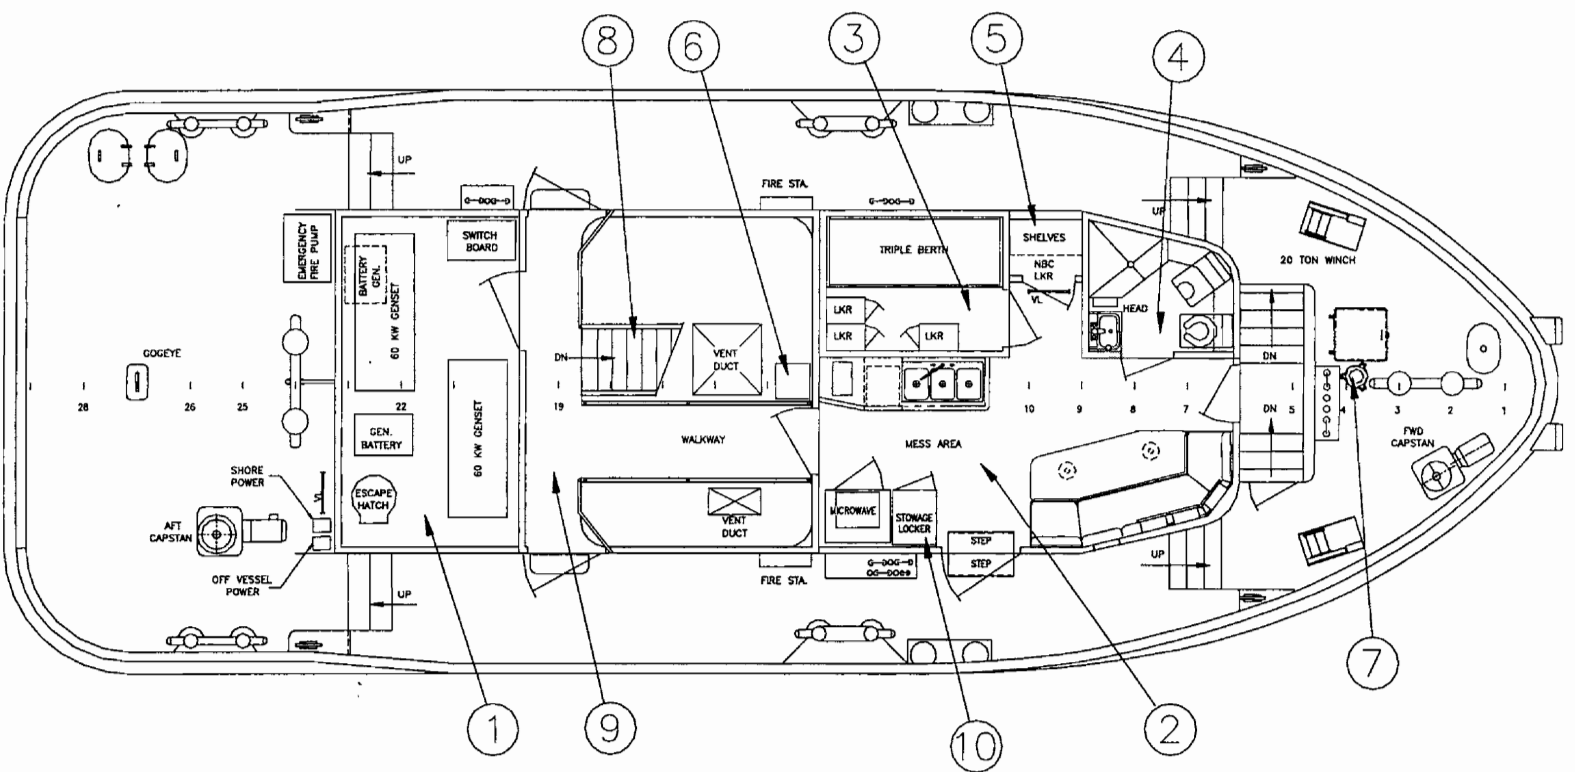
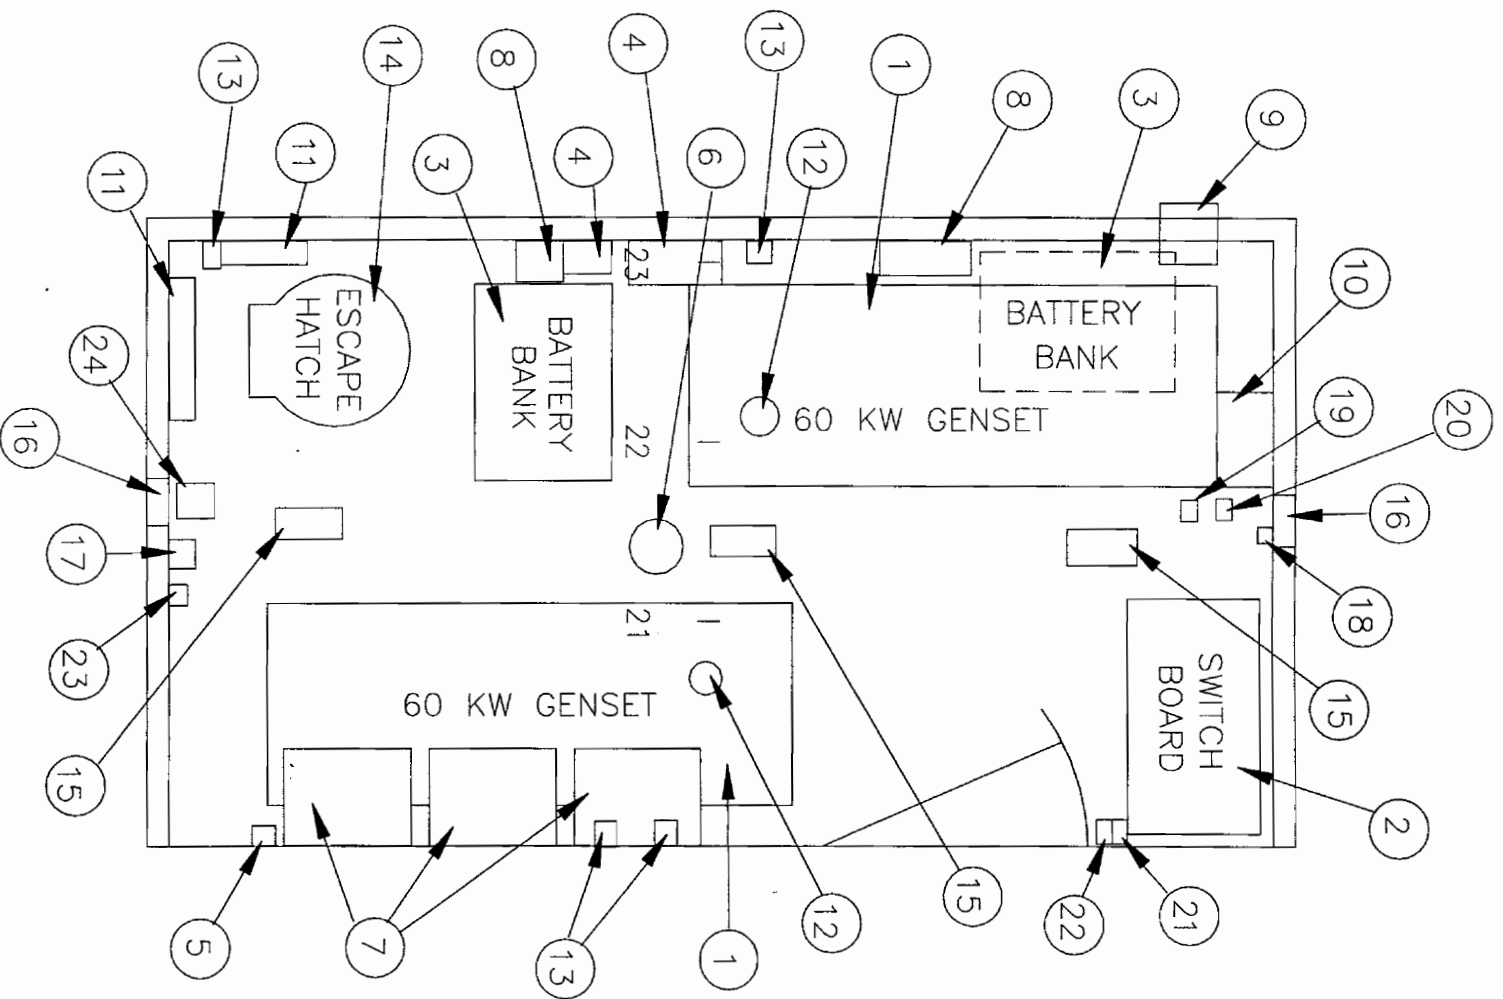
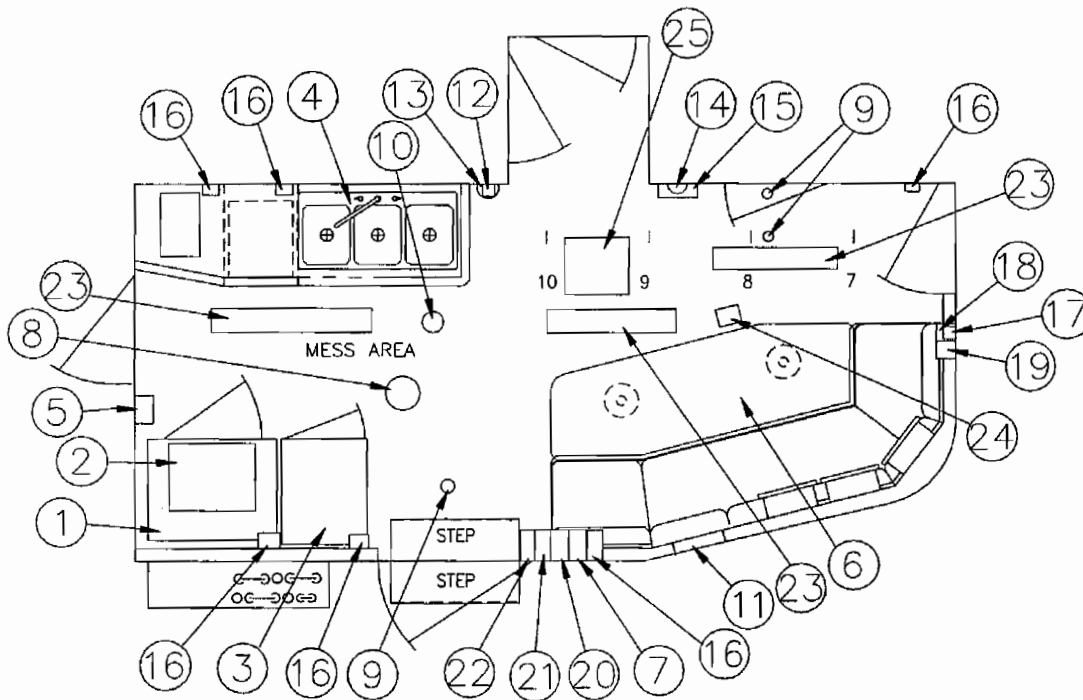
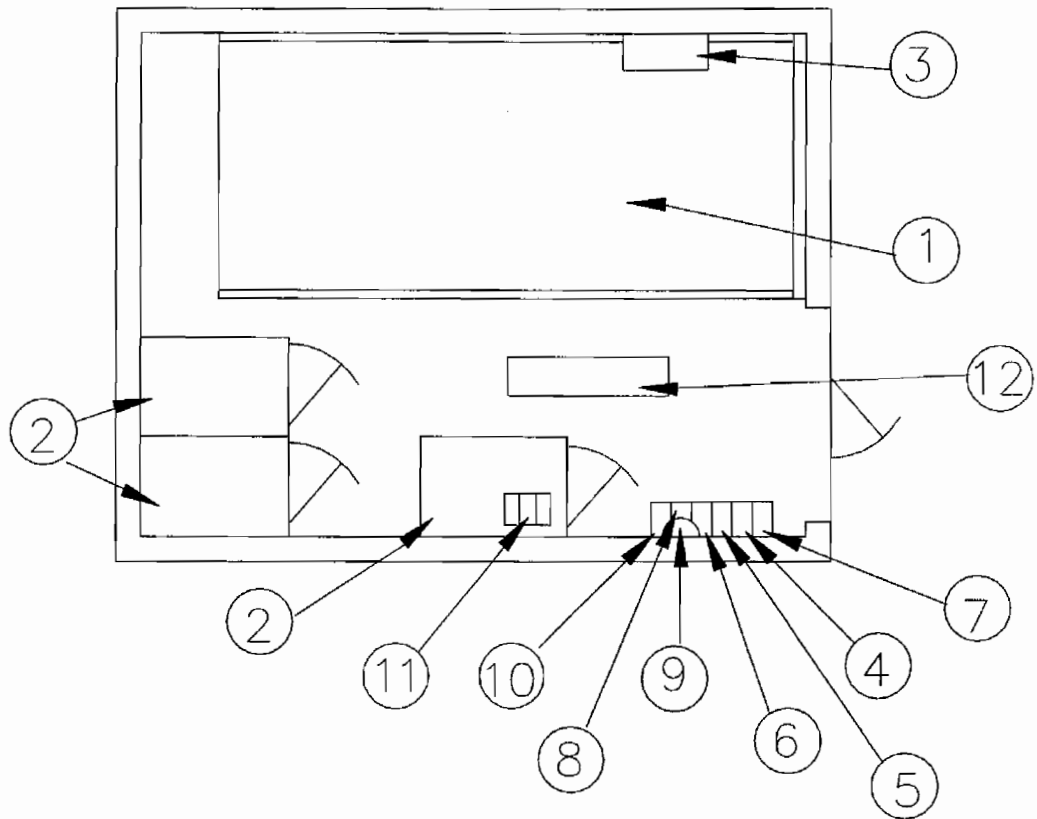

Figure 1-12. Main Deck
Figure 1-13. Generator Room
Figure 1-14. Mess Area
Figure 1-15. Three-Person Berthing Area
(4) Main Deck. The rooms on the Main Deck are depicted in Figure 1-12. These include the generator room (1), mess area (2), three-person berthing area (3), and head (4). The layout of the Main Deck is discussed below.
(a) Generator Room (Figure 1-12, Item 1). The generator room is located between Frames 19 and 24, at centerline. See Figure 1-13 for a plan view of the generator room. Key components in the generator room are outlined below.
- (b) **Mess Area (Figure 1-12, Item 2).** The mess area is located on the starboard side between Frames 6 and 14. The mess area (Refer to Figure 1-14) contains a refrigerator/freezer (Item 1), a stowage locker (Item 3), a microwave oven (Item 2), a mess table with seating (storage provided below seating) (Item 6), a sink with storage above (Item 4), a fire alarm beacon/horn (Item 5), a fire alarm pull station (Item 7), a smoke detector (Item 8), sounding tubes (Item 9), a deck drain (Item 10), a fixed port light (Item 11), a remote intercom station (Item 12), a fire extinguisher (Item 13), a clock (Item 14), a first aid kit (Item 15), six receptacles (Item 16), a sound powered phone (Item 17), an engine alarm (item 18), a ventilation shutdown (Item 19), an intercom speaker (Item 20), a carbon monoxide detector (Item 21), a light switch (Item 22), three fluorescent light fixtures (Item 23), an emergency DC light (Item 24), and an air condition vent (Item 25).
- (c) **Three-Person Berthing Area (Figure 1-12, Item 3).** A three-person berthing area (Refer to Figure 1-15) is located port of centerline between Frames 10 and 14. The berthing area contains a triple berth (Item 1), three lockers (Item 2), berthing lights (Item 3), a receptacle (Item 4), a light switch (Item 5), a remote intercom station (Item 6), a carbon monoxide detector (Item 7), an air condition vent (Item 8), a clock (Item 9), a mirror (Item 10), three emergency escape breathing devices (EEBD's) (Item 11) and a fluorescent light fixture (Item 12).
- (d) Lockers and First Aid Station (Figure 1-12, Items 5, 6, 7, and 10). The NBC locker (Item 5) is located forward of the three-person berthing area and is situated between Frames 9 and 11. The foul weather gear locker (Item 6) is located on the starboard side of centerline aft of the mess area on the Frame 14 bulkhead in the upper engine room. A first aid station is located on the starboard outside wall of the head between Frames 8 and 9. The chain locker (Item 7) is located centerline at Frame 3 and the stowage locker (Item 10) is located on the starboard side of the mess area.
- (e) Head (Figure 1-12, Item 4). A head is located between Frames 6 and 9 on the port side of the mess area. The head includes the following:
- (f) Walkway (Figure 1-12, Item 9). There is a walkway between the galley and generator room providing access to the generator room, main deck, and to a stairwell leading to the lower engine room.
- (g) Stairwell (Figure 1-12, Item 8). A stairwell is located aft of the galley and three-person berthing area. The stairwell is accessed from the walkway and provides access to the Hold Deck below.